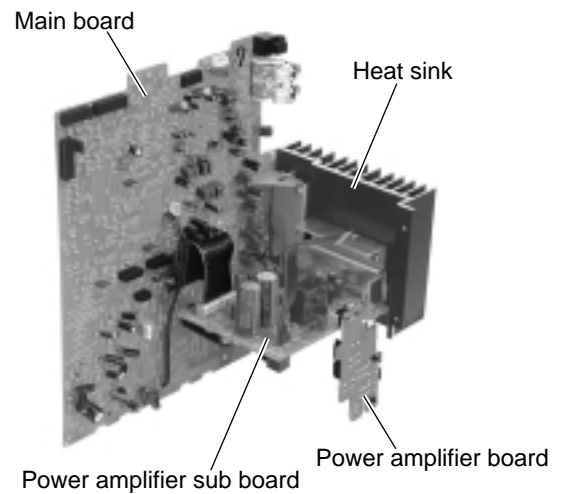

Fig.19
(See Fig.19 and 21)**
**●Removing the power amplifier sub board (See Fig.19 to 21)**
(See Fig.19 to 21)**